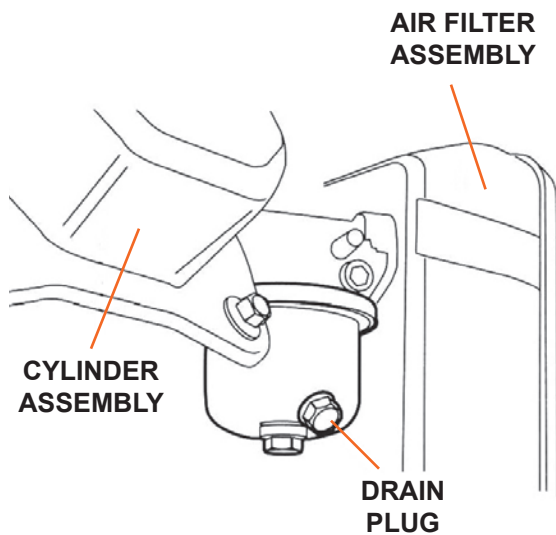

Figure 12
2. When the generator is to be stored for longer than 20 days, prepare the engine for storage by emptying the fuel tank and draining all fuel lines (see Figure 12). Clean out area around spark plug and remove. Pour one tablespoon of engine oil into the cylinder through the spark plug hole. Reinstall the spark plug, but leave the spark plug wire disconnected. Pull recoil starter handle to distribute oil in the cylinder. Stop after one or two revolutions when you feel the piston start the compression stroke (when you start to feel resistance).